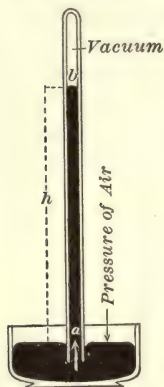

FIG. 88. — Mercury column supported by air.
94. How to calculate the pressure of the atmosphere. From the law that pressure in a heavy liquid is everywhere the same at the same depth, we know that the pressure on the mercury in the dish (Fig. 88) is the same at a as outside.